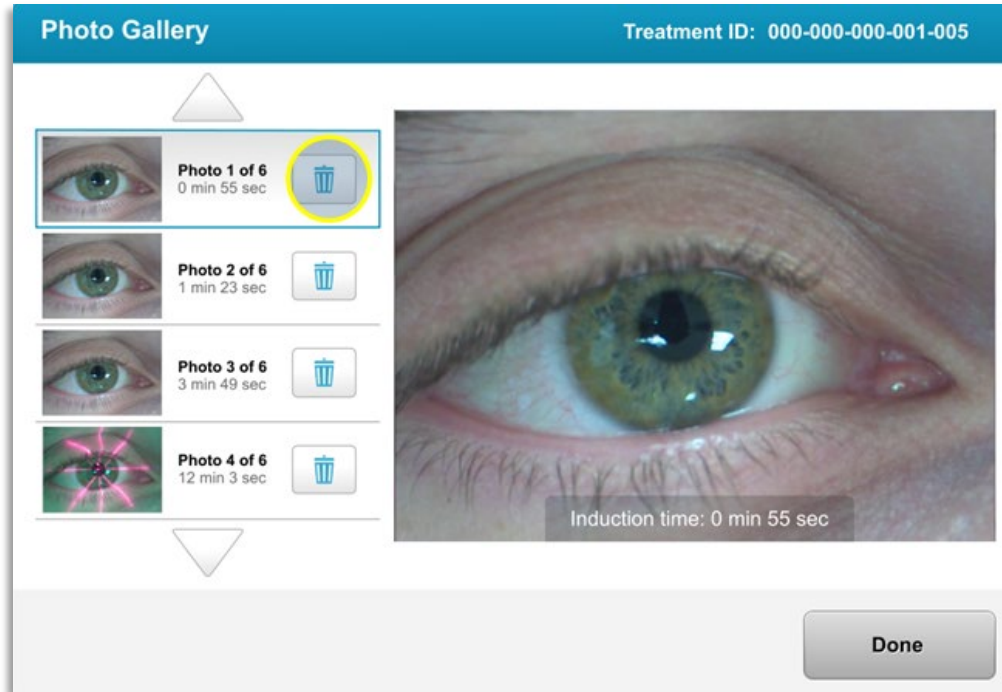

Figure 3-33. Select Trash to delete
- In the Photo Gallery, select the trash icon next to the photo to be deleted as shown in Figure 3-33.